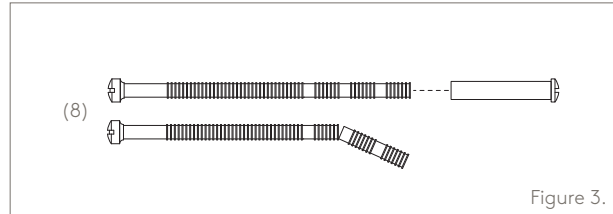

Figure 3.
- 3.1. If required, shorten tie bolts to suit door thickness. (Figure 3.)